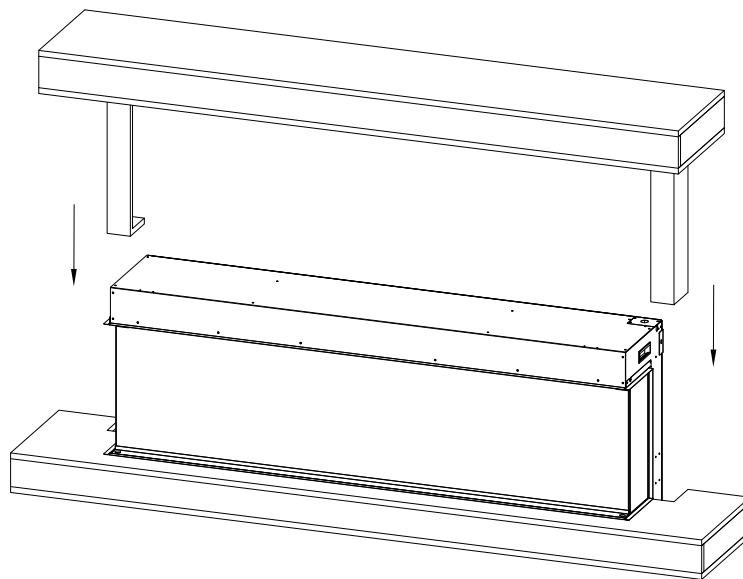

Figure 3.12 - Install Top Assembly to Base Section
5. Attach the two mantel legs as shown in Figure 3.12 with (8) of the supplied screws. (4) screws per side.